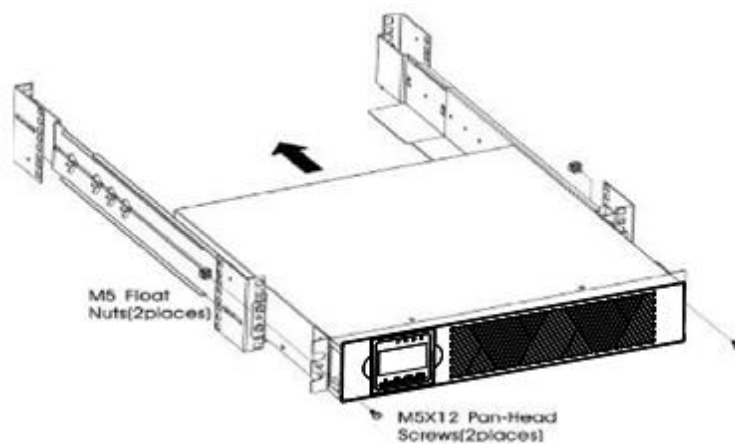

Figure4 - Securing the Front of the Cabinet
- l) Secure the front of the UPS to the rack using one M5x12 pan-head screws and one M5 cage nuts on each side(see Figure 4).Install the bottom screw on each side through the bottom hole of mounting bracket and the bottom hole of the rail.